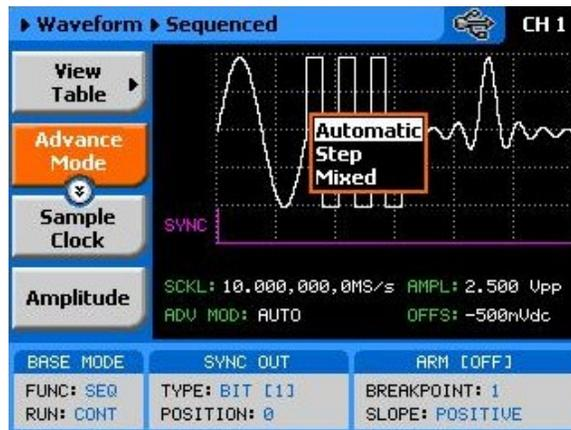

Figure 3-52, Sequence Advance Options
1. Refer to Figure 3-52 and select the Advance Mode with the appropriate soft key. The advance mode options, as shown in Figure 3-52 will display. Use the dial or arrow keys to scroll down to the required mode and press Enter to lock in the selected mode.
Modulated waveforms are selected from the waveforms menu. Figure 3-52 shows how to select the FM. To access this menu, press TOP, then waveforms and select the Modulated waveforms option.